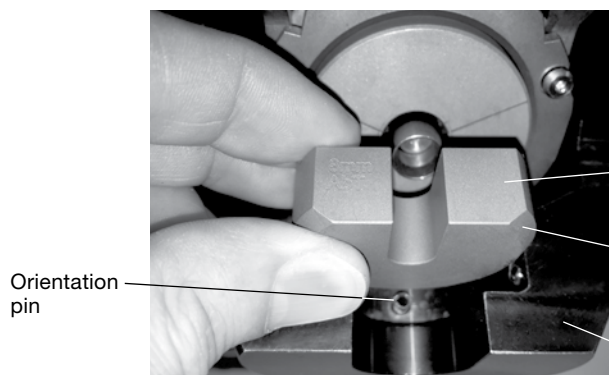

Fig. 10 Installing the Spacer
3. Install the spacer into the retainer with the recess facing the puck and the chamfer facing away from the puck, aligning the orientation pin and sliding the spacer down until it is flush with the retainer surface. Fig. 10 and 11.